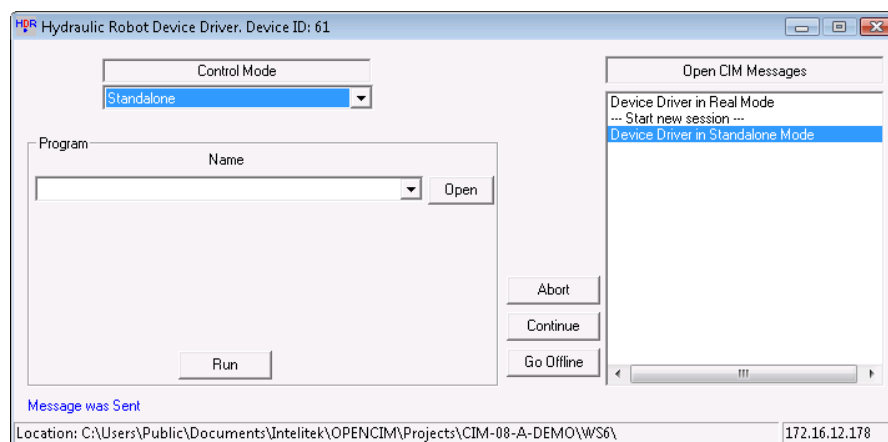

Figure 155: Hydraulic Robot Device Driver (Standalone)
4. From the Control Mode drop down list, select **Standalone**. The window is expanded as shown in Figure 155: Hydraulic Robot Device Driver (Standalone).